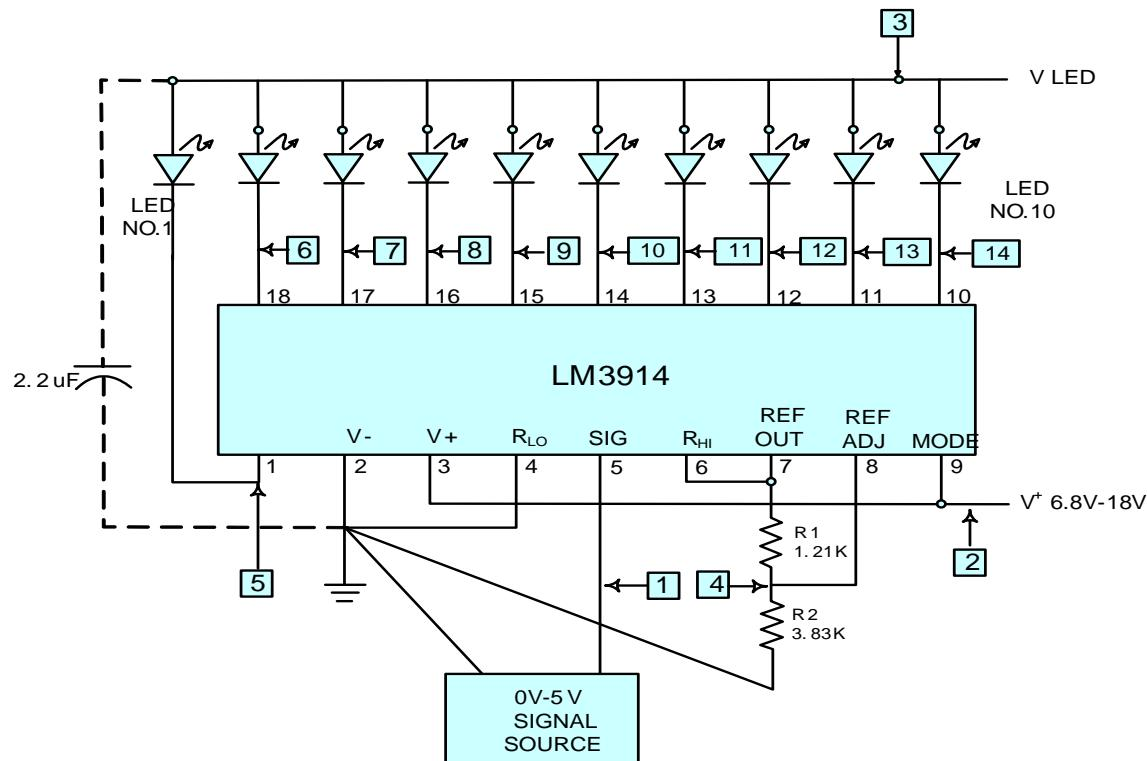

Figure 70
- Construct the circuit on a breadboard using the monolithic IC LM 3940. as shown in Figure 70.